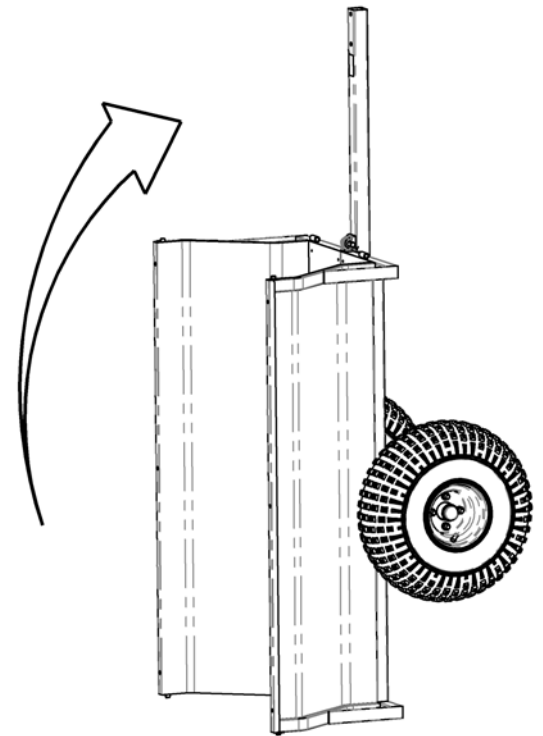

Figure 14
- 12. Grasp the Tow Bar and carefully stand the Trailer on end (**Figure 14**). Reposition yourself on the other side of the Trailer and gently lower the Trailer onto its Wheels.